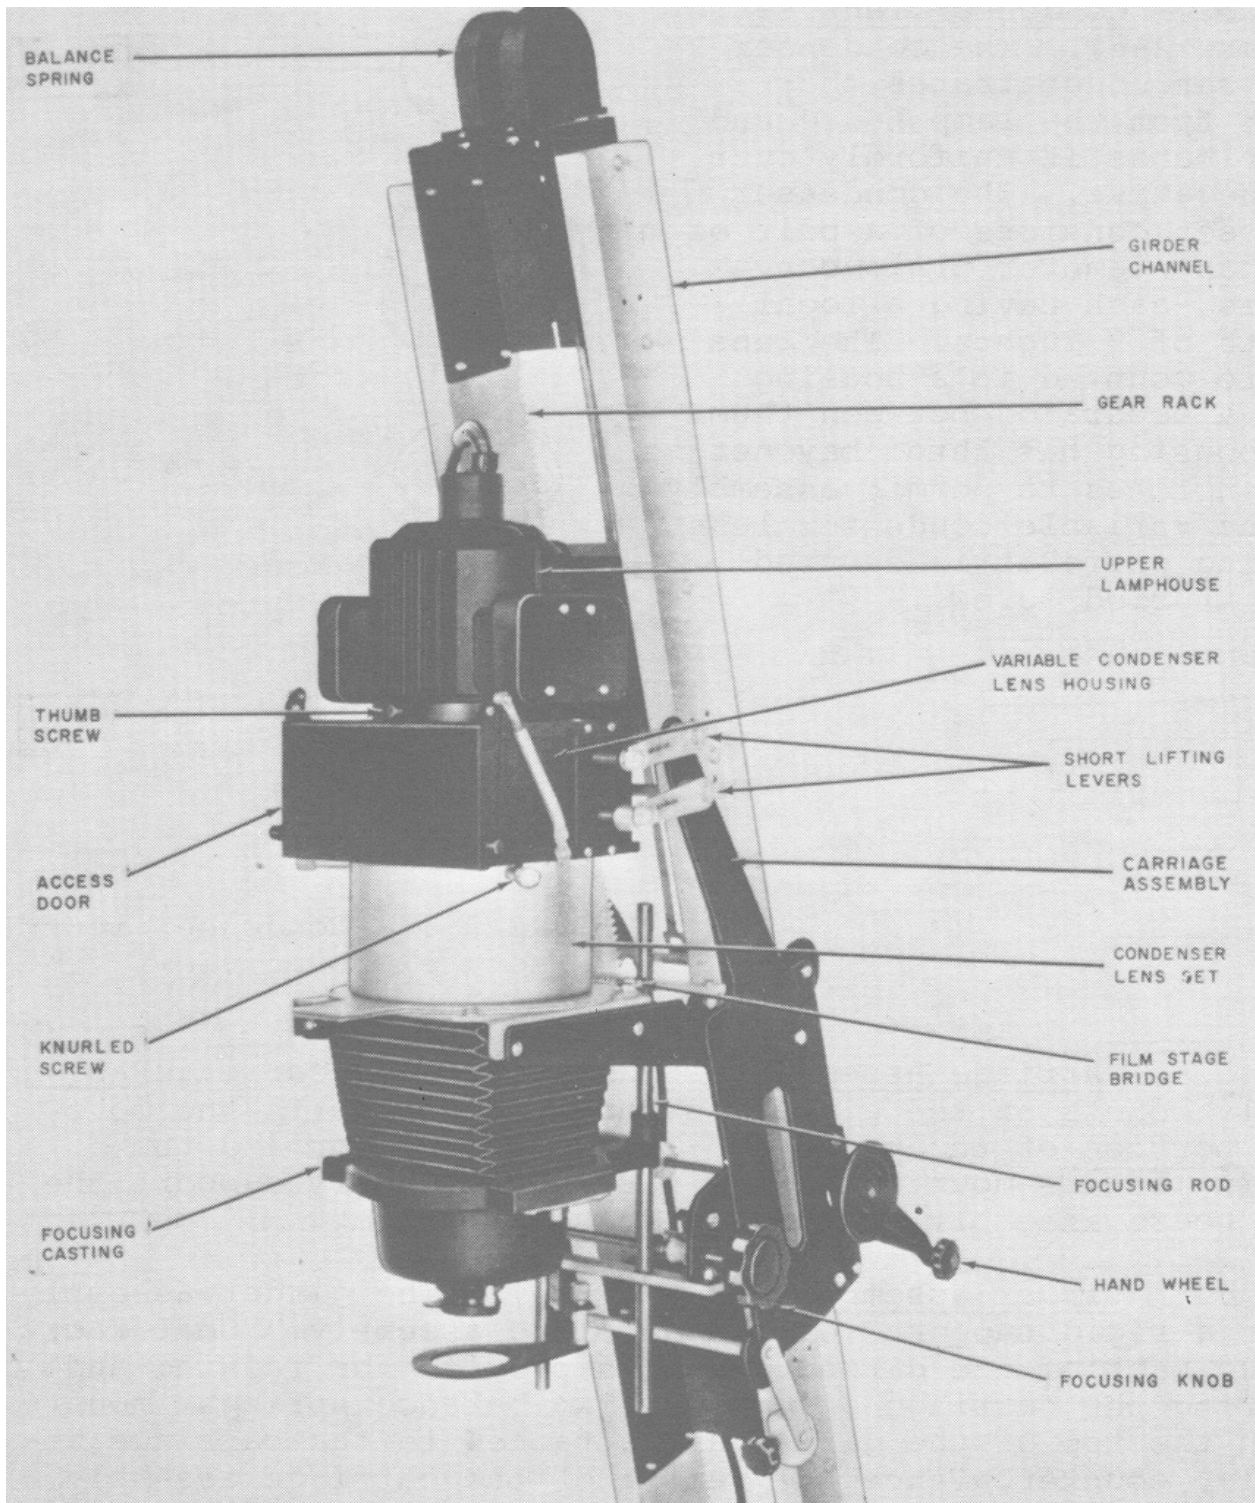

FIGURE 2-5. Printer, right-side view.
a. Lamp house assembly (figure 2-5). The complete lamp house assembly consists of the upper lamp house and the variable condenser lens housing. The variable condenser lens housing contains a door which provides access to a variable condenser lens, a color filter holder, and a heat absorbing glass. Knurled screws attach the condenser lens set to the variable condenser lens housing. The upper lamp house contains the lamp, the light cone (reflector), and the light traps.
c. Carriage assembly (figure 2-5). The carriage assembly mounts on the girder assembly and supports the movable portion of the printer. The control lever and the lifting levers mounted on the carriage assembly support the lamp house assembly and the condenser lens set.
d. Girder assembly (figure 2-5). The girder assembly forms a rigid support for the carriage assembly. Gear racks at the back of the girder channels provide for raising and lowering the carriage assembly. Two balance springs, mounted on the top of the girder and attached to the carriage assembly, counterbalance the weight of the carriage assembly.